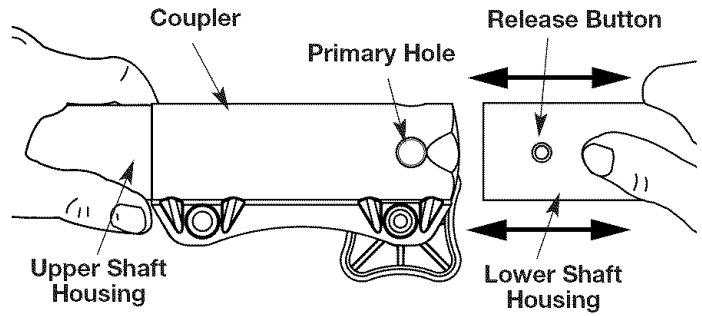

Fig. 7
3. While firmly holding the upper shaft housing, pull the cutting attachment or optional attachment straight out of the coupler (Fig. 7).
2. While firmly holding the attachment, push it straight into the coupler (Fig. 7).
NOTE: Aligning the release button with the guide recess will help installation (Fig. 7).